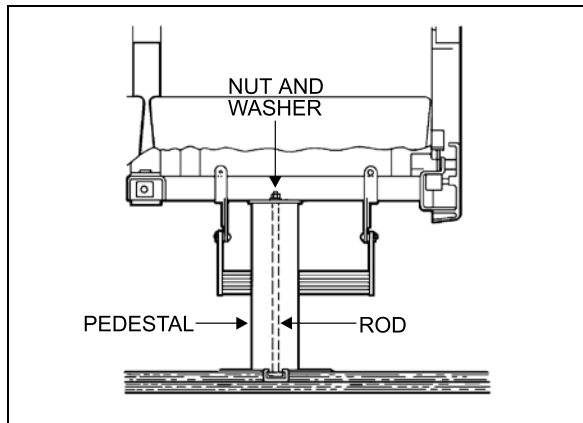

FIGURE 84: SEAT PEDESTAL ASSEMBLY 18107
5. Remove 2 nuts and washers holding seat frame to pedestal rods. See Figure 84.